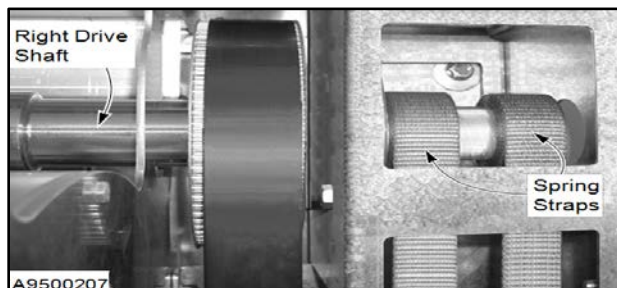

Figure 55
8. Then remove the steel plate and all associated hardware used to clamp the strap to the shaft. Save all hardware. (See Figure 55.)